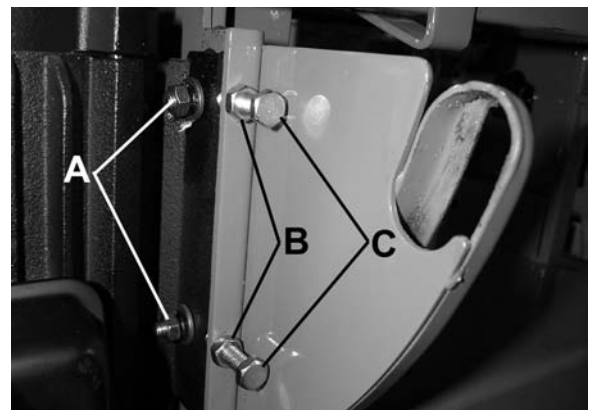

FIGURE 11
- 2) Slightly loosen the 4 motor mount hex. nuts (A-Fig.11) just enough so the motor mount tracking hex. nuts can be loosened.
- 3) Loosen both hex. nuts (B-Fig.11). Turn one hex. bolt (C-Fig.11) a 1/4 turn and push the belt by hand to observe the direction the belt is tracking. If the belt is traveling in the direction needed to correctly track the belt, tighten both hex. nuts (B-Fig.11) and fine tune the tracking with the belt tracking assembly on the belt frame.